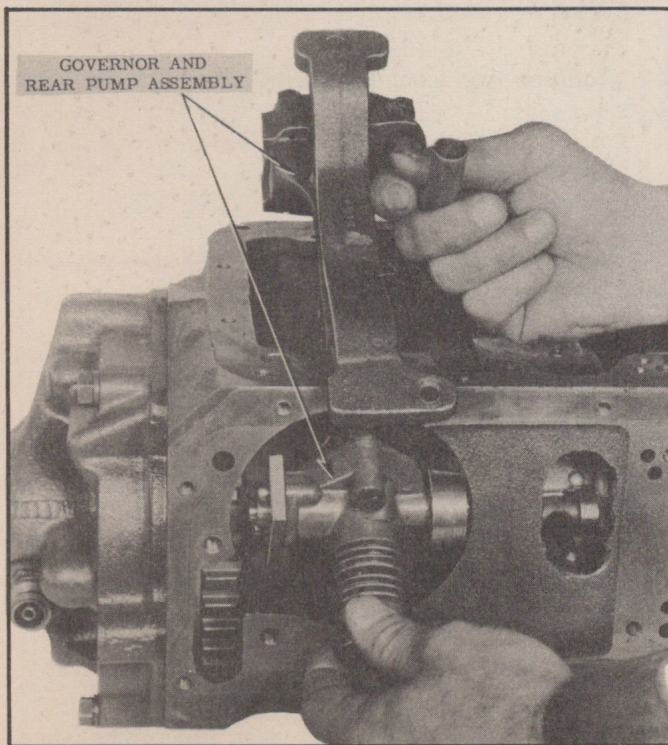

Fig. 121—Removing Governor and Rear Pump Assembly
9. Remove governor and rear pump assembly by moving toward control valve assembly side of transmission case and lift to clear case (Fig. 121).